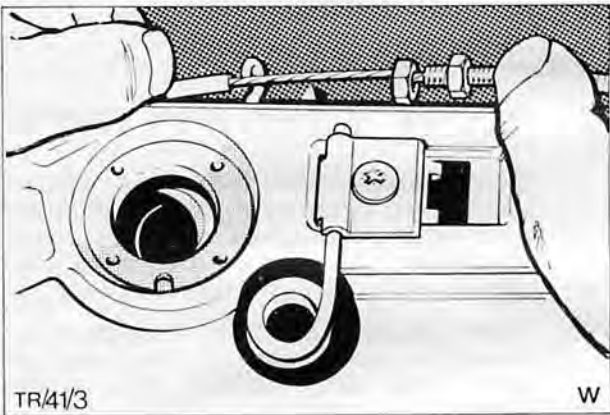

Fig. 8. Hood lock release cable to hood lock spring
8. Connect and adjust hood release cable Fig. 8, so that spring is seated on slot in striker sleeve, with all slack removed from cable.